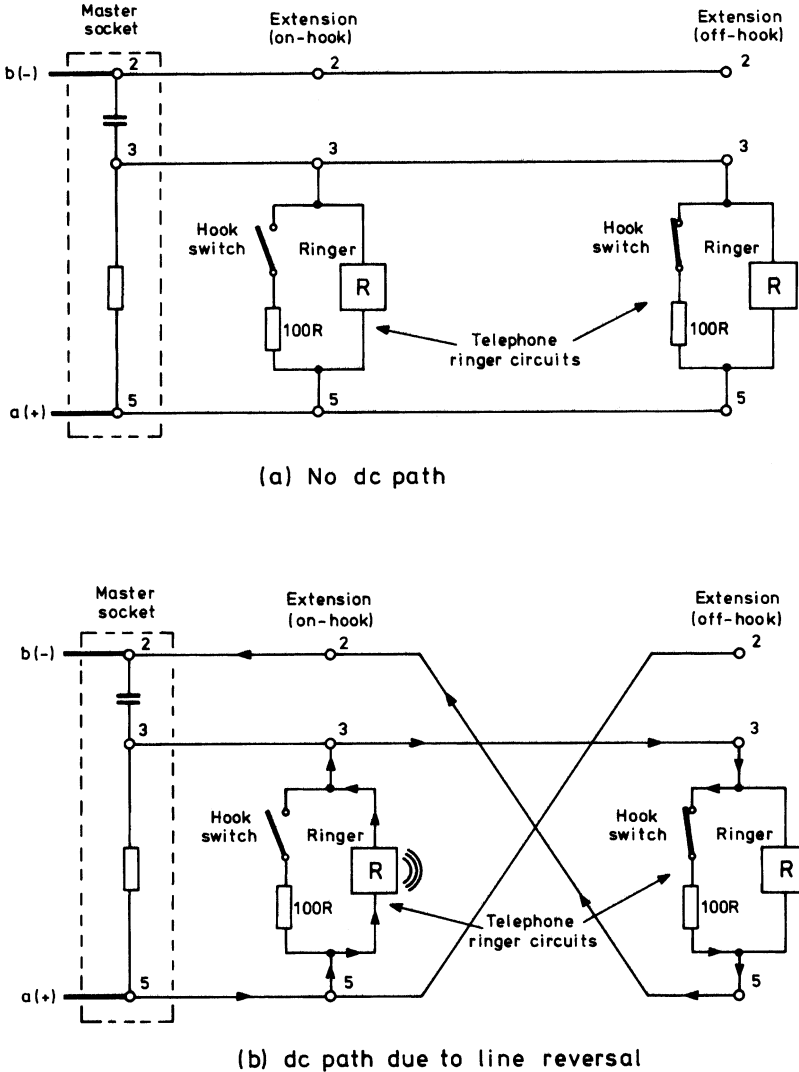
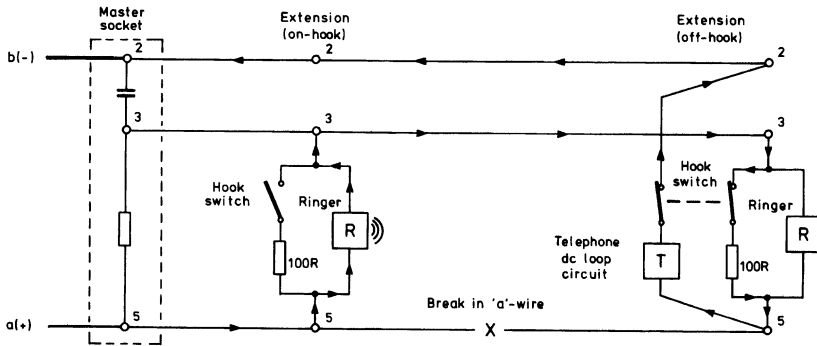

Figure 7.2 Unwanted ringing due to line reversal.
Figure 7.3 Unwanted ringing due to break in 'a'-wire.
- One of two possible faults will now cause unwanted ringing. Firstly, if the a and b wires are inadvertently reversed in the extension socket wiring, a DC path is established through the ringer circuit of other telephones still 'on hook' (see Fig. 7.2). Secondly, a break in the 'a' wire (to socket terminal 5) will allow a DC path to be established, as shown in Fig. 7.3. The cure, of course, is to locate the line reversal or break and correct it.